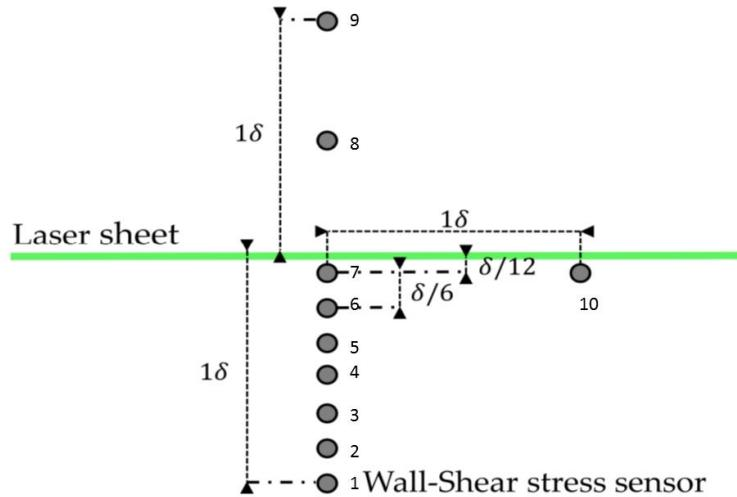

Figure 2 Sensors numbering
- “*Tau_filter*” is a 2D array with the value of the filtered wall shear stress signal. The number of columns (1 to 10) corresponds to the sensor number as display in Fig 2.